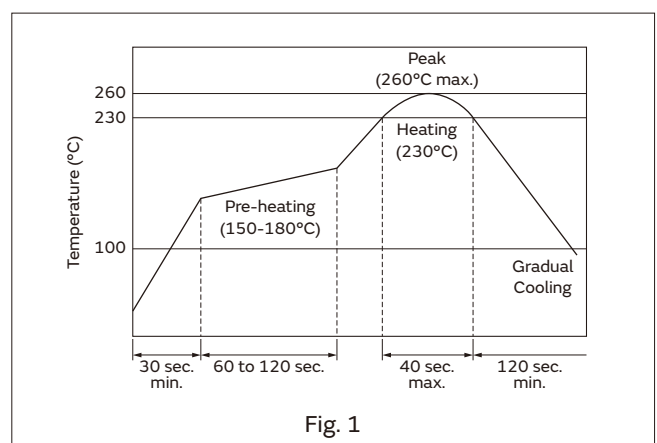

Fig. 1
(1) Flow soldering conditions for pin terminal type
(2) Soldering condition by soldering iron for pin terminal type
(3) Reflow soldering condition for surface mounting type
- Temperature profile: Fig. 1